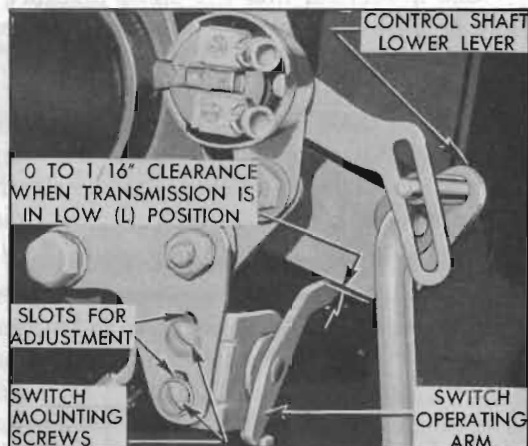

Figure 11-6—Back-up Lamp Switch Mounting—Dynaflow
1. Check the adjustment of switch by placing transmission control lever in Low (L) position, then checking clearance between switch operating arm and lower edge of control shaft lower lever. Correct clearance is 0 to $\frac{1}{16}$ ".
2. If the specified clearance does not exist, loosen the two switch mounting screws and move switch up or down on mounting bracket as required to obtain clearance, then tighten screws securely. Switch screw holes in mounting bracket are slotted to permit this adjustment. See figure 11-6.